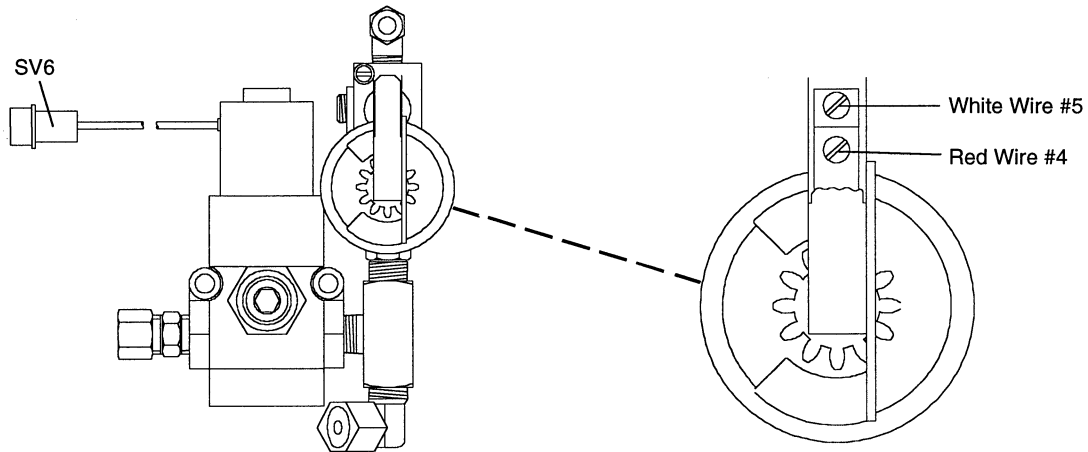

Figure 4 Pressure Switch Electrical Connection Points on 129091
8. Reconnect the two plastic electrical connectors marked SV6 and SV7 to their mating receptacles (SV7 not shown in Fig. 4).
9. Connect wire terminals marked #4 & 5 to the pressure switch as shown in Fig. 4.